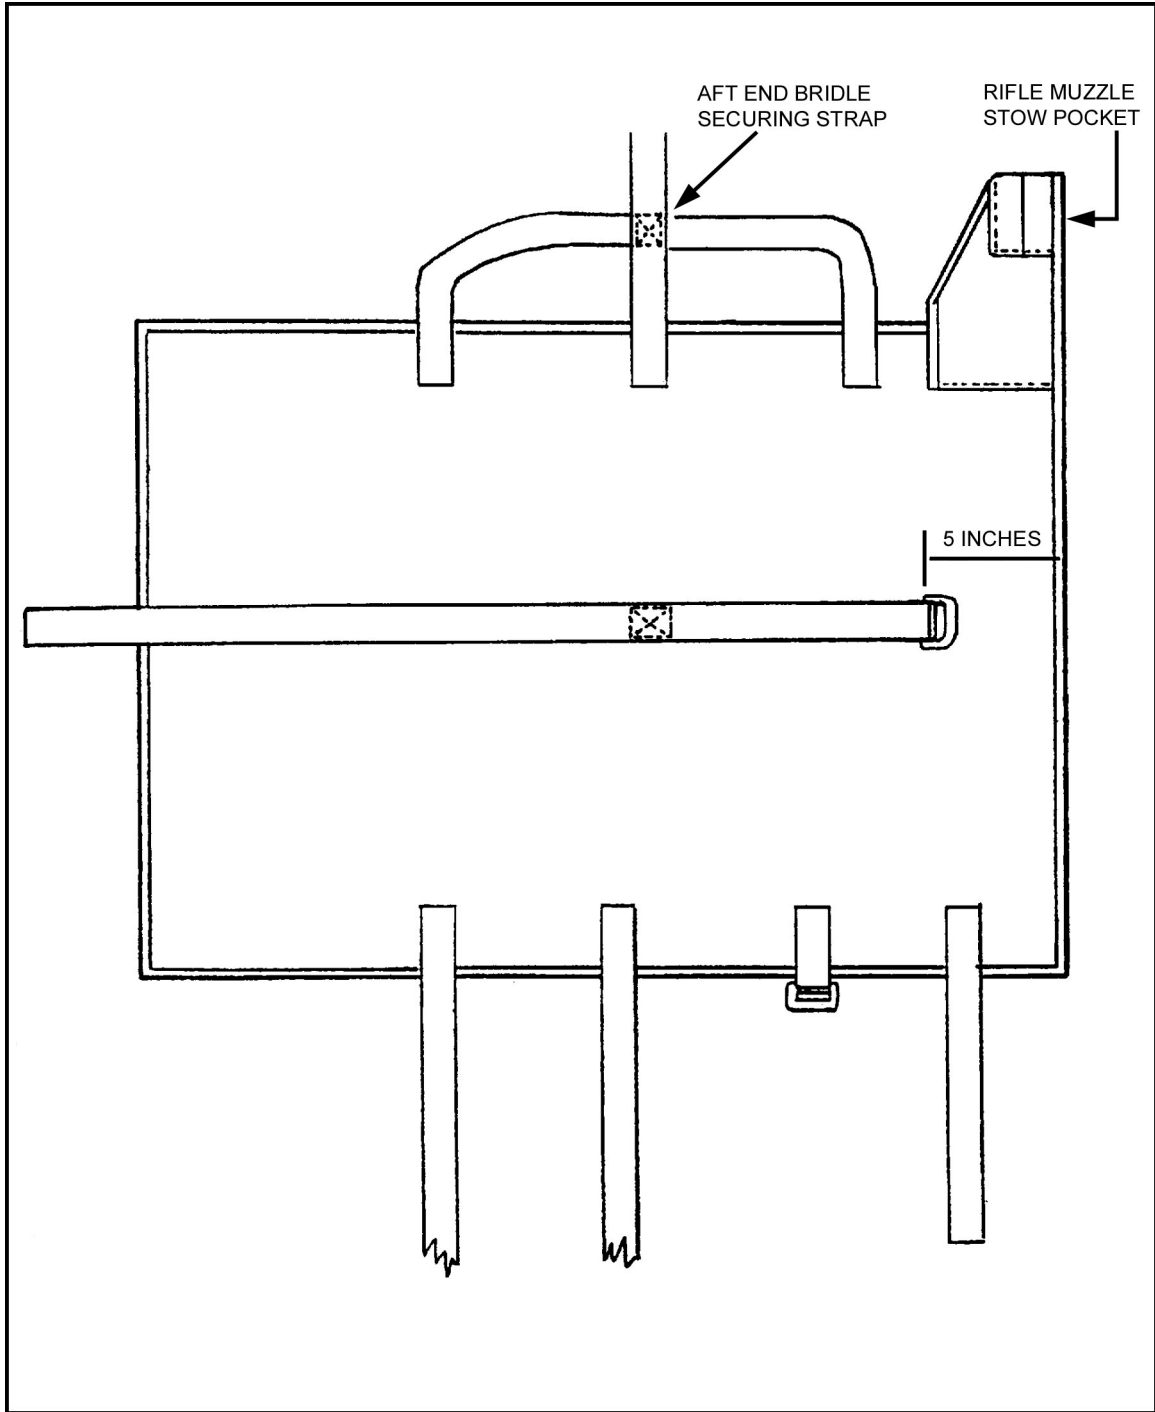

Figure 12-62. A-7A strap centered and stitched.
b. Cut the running end of an A-7A strap so its overall length is 38 inches. Place the strap on the center mark and stitch in place forming a 2 1/2-inch box-X stitch using No. 6 nylon thread. Ensure the buckle end is 5 inches from the side of the pack (Figure 12-62).